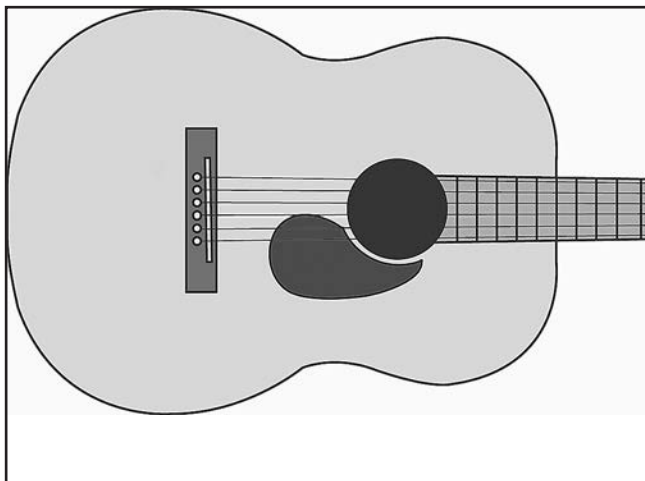

Figure 12. Pickguard placement.
3. Place the pick guard on the body so the semi-circle aligns with the center ring of the sound hole decal (See **Figure 12**).